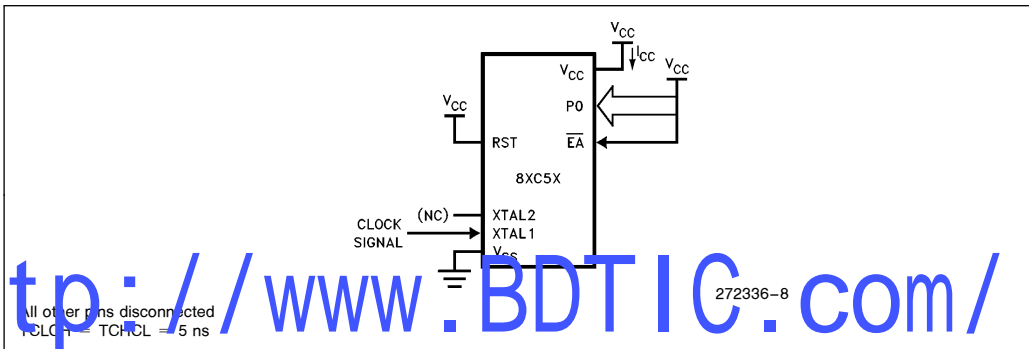

Figure 6. ICC Test Condition, Active Mode
- See Figures 6–9 for test conditions. Minimum VCC for Power Down is 2V.